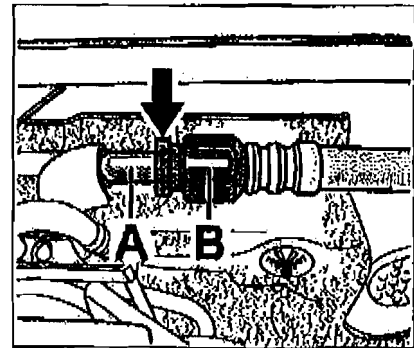

Figure 9
5.8 Screw on and tighten the new fuel line (with different marking and pre-fitted spacer ring) at the connection point ⇒ *Figure 9* -arrow- at the plenum panel in such a way that the marking on the hexagon on the fuel line ⇒ *Figure 9* -B- is aligned with the marking on the connection point ⇒ *Figure 9* -A-. Counter at the hexagon on the fuel line while tightening. **Tightening torque 35 Nm (26 ftlb.)**